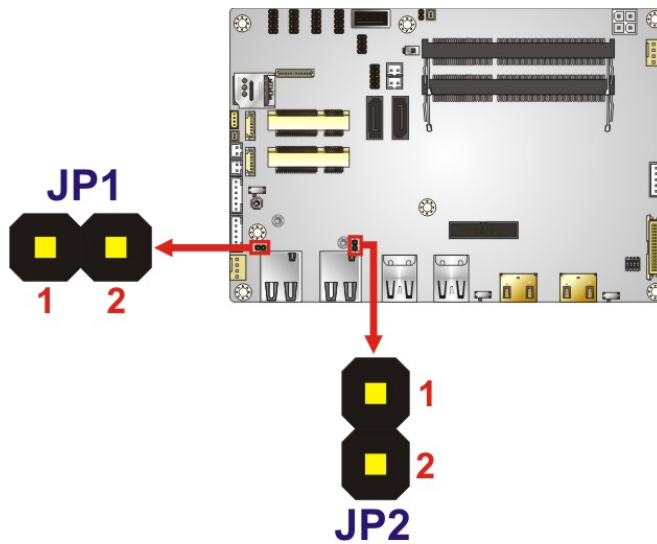

Figure 3-13: LAN LED Connector Locations
- CN Location:** See Figure 3-13